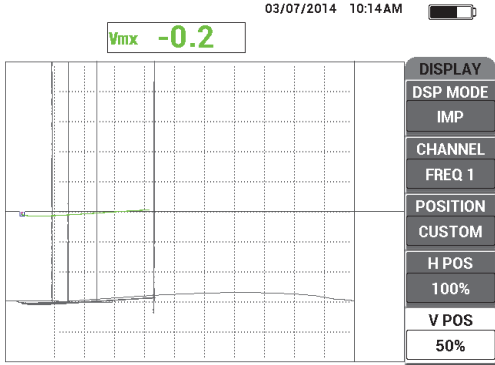

Figure 5-45 Using the vertical reference marks for thickness evaluation
- Evaluate your subsequent paint thickness reading using the vertical reference marks (see Figure 5-45 on page 159).